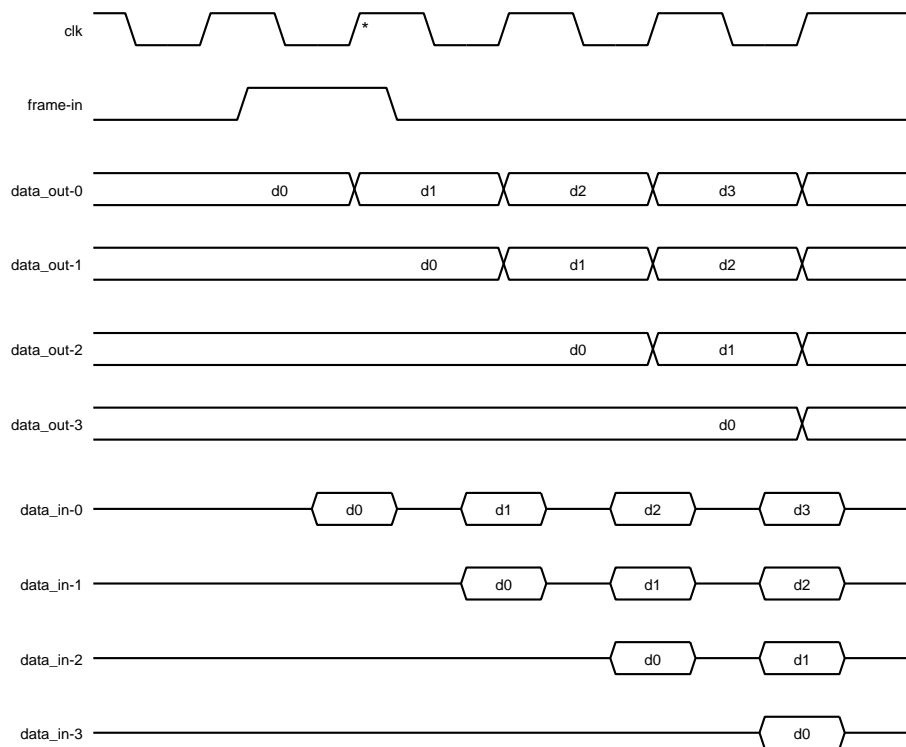

Figure 23.6: *Effect of `tr_delay` and `rec_delay` on frame input*
Figure 23.6 shows similar examples in the case of frame input:
- To achieve the data in and out timing in figure 23.6, add 1 to the `tr_delay/rec_delay` values. E.g. to get the 'data_out-1' behavior, write the value 2 to `rw_frm_cfg.tr_delay`.